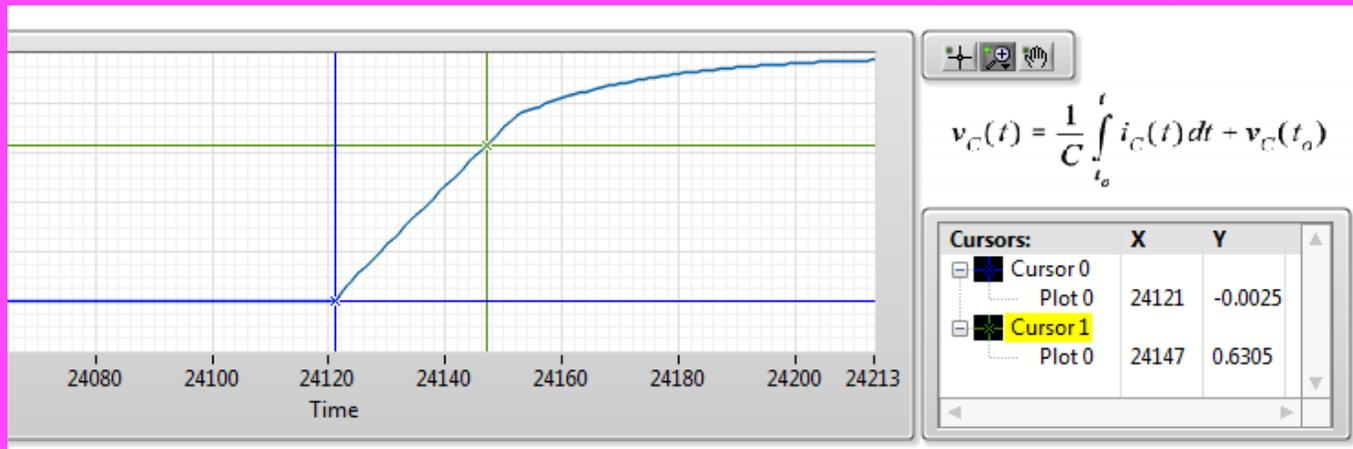

Figure 5 Cursors Used to measure time difference between voltage values
**Step 7:** Use the provided cursors on the capacitor voltage graph the same as you did from Step 3 and position one at the beginning of the rising edge of the voltage signal where the Y value of the cursor reads approximately 0V. Place the other at the point where Y is approximately 0.63V. You may need to use the zoom  tool to zoom in on the graph to make finer movements with your cursor. Your graph should resemble Figure 5. The X values correspond to the nth sample where the cursor is located. The data was sampled at a rate of 100,000 Samples per second so if we take the difference between the two X values and divide by the sample rate we will get the time between the two voltage values which will be our estimate of the RC time constant  $\tau$ .